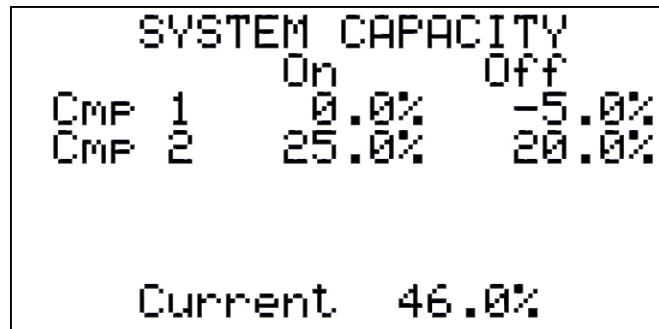

Figure 33
2.3.3.1.2 System Capacity (Figures 33 - 35)
Selecting SYSTEM CAPACITY from the Commissioning Menu displays the screen shown in Figure 33. This screen displays the “On” and “Off” calculated demands for the compressors. These values are calculated by the unit, but are also adjustable if desired. If the unit is dual circuit, then the demands for compressors 3 and 4 will be displayed on this screen. At the bottom of the screen the calculated demand is displayed.